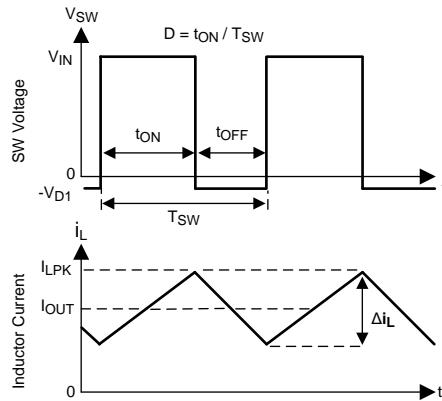

Figure 33. SW Node and Inductor Current Waveforms in Continuous Conduction Mode (CCM)
The following operating description of the LM43601 will refer to the Functional Block Diagram and to the waveforms in Figure 33. The LM43601 is a step-down Buck regulator with both high-side (HS) switch and low-side (LS) switch (synchronous rectifier) integrated. The LM43601 supplies a regulated output voltage by turning on the HS and LS NMOS switches with controlled ON time. During the HS switch ON time, the SW pin voltage V_{SW} swings up to approximately V_{IN} , and the inductor current i_L increases with a linear slope $(V_{IN} - V_{OUT}) / L$. When the HS switch is turned off by the control logic, the LS switch is turned on after a anti-shoot-through dead time. Inductor current discharges through the LS switch with a slope of $-V_{OUT} / L$. The control parameter of Buck converters are defined as Duty Cycle $D = t_{ON} / T_{SW}$, where t_{ON} is the HS switch ON time and T_{SW} is the switching period. The regulator control loop maintains a constant output voltage by adjusting the duty cycle D. In an ideal Buck converter, where losses are ignored, D is proportional to the output voltage and inversely proportional to the input voltage: $D = V_{OUT} / V_{IN}$.